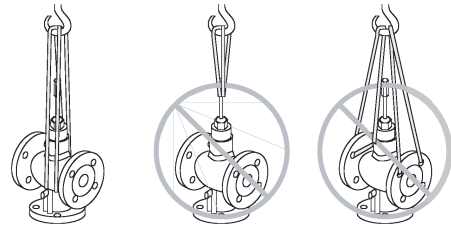
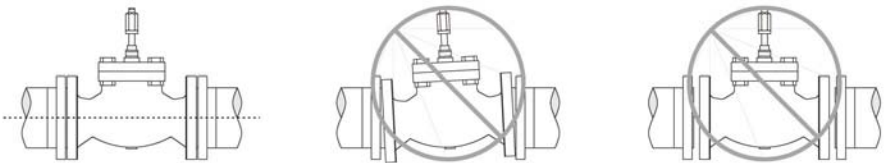

Fig. 1. Proper hoisting of VG F Valves.
Fig. 2. Basic pipe orientation.
The valves are to be installed by skilled personnel and in strict accordance with the installation instructions and local regulations. (See Fig. 1 for proper hoisting method.) Honeywell assumes no responsibility for damages or injuries resulting from non-compliance with installation instructions or standard good practice when mounting, operating, or maintaining the valves, even if not explicitly mentioned in the installation instructions. (See Fig. 2 for basic pipe orientation.) Observe all safety practices when working with steam systems.
1. Hoist valve by its body only. Do not lift by stem, bonnet, flanges, or flange holes. (See Fig. 1.)